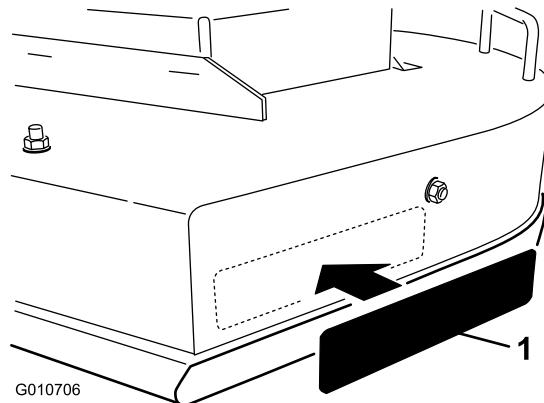

Figure 11
- Remove the backing paper and apply decal to the discharge side of the mower (Figure 11). Smooth it from the center to the edges to remove any air bubbles.